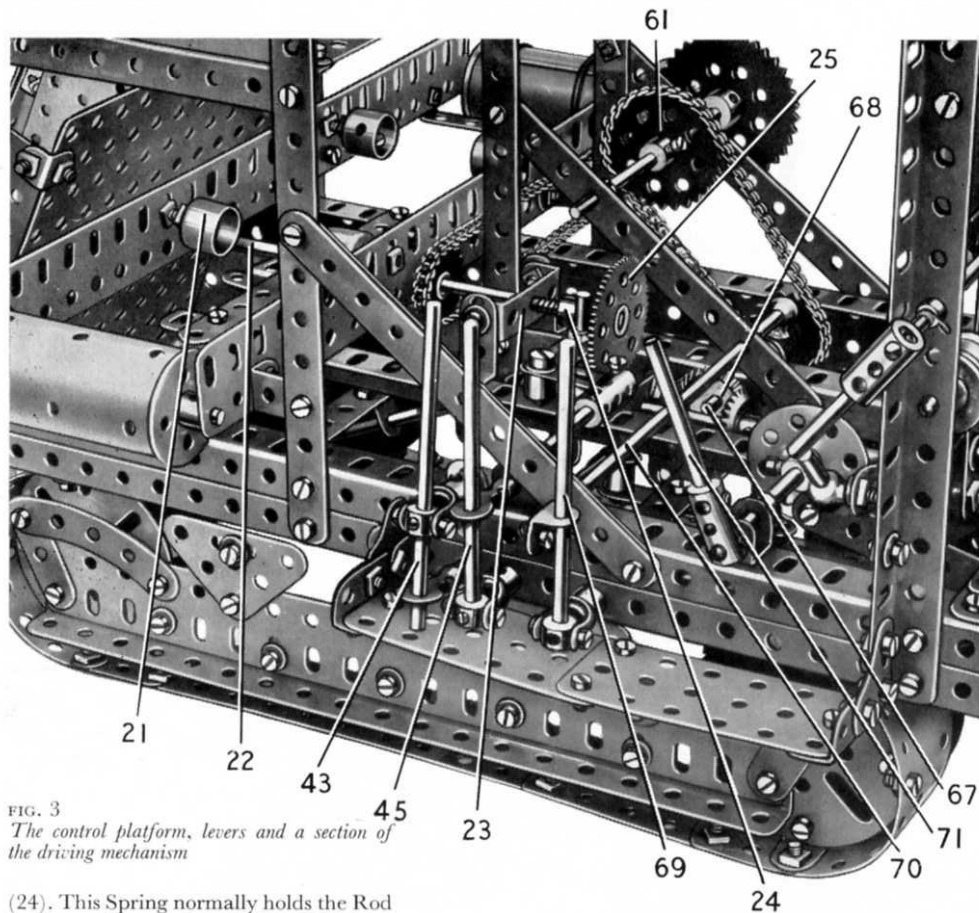
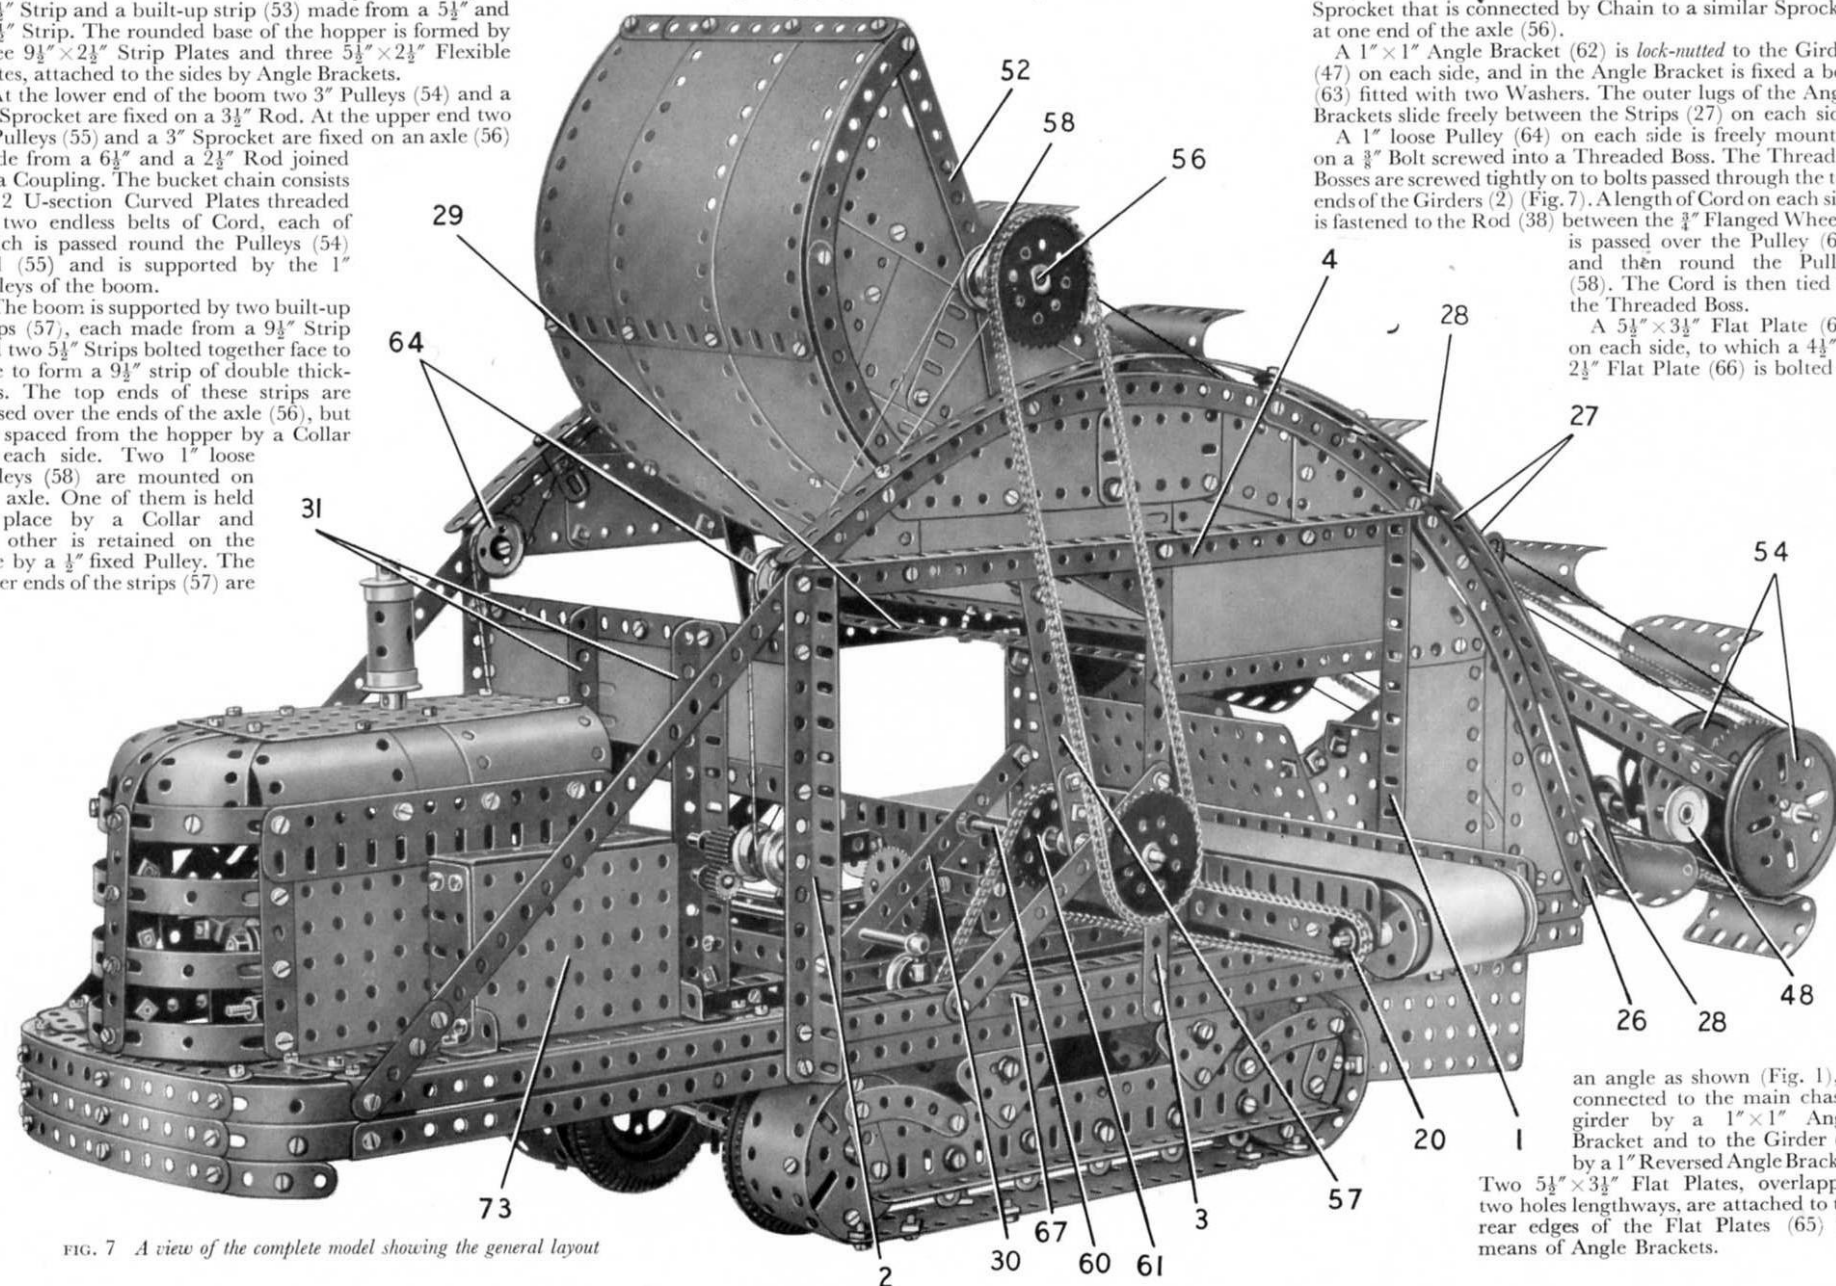

FIG. 3
FIG. 7 A view of the complete model showing the general layout
Each side-member of the chassis consists of two $2\frac{1}{2}$ " Angle Girders arranged to form a channel section girder by bolting to them two $7\frac{1}{2}$ " Angle Girders (1) and (2) and a $7\frac{1}{2}$ " Strip (3) (Fig. 7). The top ends of the Girders (1) and (2) and the Strip (3) are connected by bolting to them a $12\frac{1}{2}$ " Angle Girder (4). The side-members are connected by two built-up strips (5) and (6) (Fig. 2), each made from two $5\frac{1}{2}$ " Strips overlapped seven holes. Two similar built-up strips (7) and (8) are fixed in position, and a further built-up strip (9) (Fig. 3) is bolted across the chassis. The strip (9) is made from two $4\frac{1}{2}$ " Strips overlapped three holes. Two $18\frac{1}{2}$ " Angle Girders (10) are bolted to the strips (5) and (6) as shown.
The Motor switch is operated by a lever (71) (Figs. 3 and 6) formed by a 2" Rod in a Coupling. The Coupling is fixed on a $3\frac{1}{2}$ " Rod mounted in Double Brackets bolted to the chassis, and the Rod carries a Bush Wheel to which a built-up strip is *lock-nutted*. This strip consists of two $5\frac{1}{2}$ " Strips placed face to face and extended by a $3\frac{1}{2}$ " Strip that overlaps the $5\frac{1}{2}$ " Strips by three holes, and it is *lock-nutted* also to a Bush Wheel on a $2\frac{1}{2}$ " Rod. The Rod is held by Collars in Flat Trunnions bolted to the Girders (10), and a $2\frac{1}{2}$ " Strip (72) (Fig. 2) is fixed across the Bush Wheel. Another $2\frac{1}{2}$ " Strip is *lock-nutted* to the Strip (72) and is pivoted at its upper end on a $\frac{3}{8}$ " Bolt screwed into a Handrail Support that is *lock-nutted* to an arm of the Motor switch.
The conveyor frame consists of two $12\frac{1}{2}$ " Flat Girders, one of which is attached to the Girders (1) (Fig. 7) by $1" \times \frac{1}{2}"$ Angle Brackets while the other is similarly attached to the Strips (3). A $3\frac{1}{2}" \times \frac{1}{2}"$ Double Angle Strip (19) (Fig. 2) is bolted between the Flat Girders at one end.
The main conveyor rollers are formed by $1\frac{1}{8}"$ Flanged Wheels pressed into Cylinders, and each is fixed on a 4" Rod mounted in the Flat Girders. The Rod that supports the driving roller carries a $\frac{3}{4}"$ Sprocket (20) (Fig. 7), and two $2\frac{1}{2}"$ Driving Bands are stretched round this roller. The belt can be made from a length of cloth or strong paper joined together at its ends. The supporting rollers (21) (Fig. 3) are Chimney Adaptors, each of which is free to turn on a $\frac{1}{2}"$ Bolt and is held against the head of the Bolt by two nuts screwed against each other.
The Sprocket (20) is driven by a 1" Sprocket on a $6\frac{1}{2}"$ Rod (22) (Fig. 3). This Rod is supported in the conveyor frame and in a $1\frac{1}{2}" \times \frac{1}{2}"$ Double Angle Strip (23) that is attached to $1" \times \frac{1}{2}"$ Angle Brackets bolted to the Girders (10). A Compression Spring is fitted on the Rod between Double Angle Strip (23) and a Collar
(24). This Spring normally holds the Rod so that a 57-tooth Gear (25) on it is kept clear of the Pinion (15) (Fig. 8). The Gear and Pinion can, however, be brought into mesh by sliding the Rod, to engage the drive to the conveyor. The movement of Rod (22) is restricted by a Collar placed inside the conveyor frame, and is controlled by a lever (45) (Fig. 3). This lever is a $3\frac{1}{2}$ " Rod fixed in a Swivel Bearing attached to the chassis by a Pivot Bolt. The lever carries as shown a Rod and Strip Connector fixed on a $3\frac{1}{2}$ " Rod that slides in a Double Bracket bolted to the chassis. A Strip Coupling on the $3\frac{1}{2}$ " Rod is connected by a $\frac{3}{8}$ " Bolt to one arm of a Bell Crank, and this is mounted freely on a Pivot Bolt fixed in one of the Girders (10). The other arm of the Bell Crank carries a Threaded Pin that engages between the Collar (24) and the Gear (25).
A 1" loose Pulley (64) on each side is freely mounted on a $\frac{3}{4}$ " Bolt screwed into a Threaded Boss. The Threaded Bosses are screwed tightly on to bolts passed through the top ends of the Girders (2) (Fig. 7). A length of Cord on each side is fastened to the Rod (38) between the $\frac{3}{4}$ " Flanged Wheels, is passed over the Pulley (64) and then round the Pulley (58). The Cord is then tied to the Threaded Boss.
Drive to the Bucket Chain (Figs. 3, 5, 7 and 8)
A 4" Rod (67) (Fig. 3) is mounted in one of the Girders (10) and in one side of the chassis frame. The Rod carries a $\frac{3}{4}$ " Bevel Gear (68), a 1" Sprocket connected by Chain to the $1\frac{1}{2}$ " Sprocket (61), and a $\frac{3}{4}$ " Flanged Wheel. A Compression Spring is fitted on Rod (67) between the Girder (10) and the Flanged Wheel, and this normally holds the Rod in such a position that Bevel Gear (68) is clear of Bevel Gear (17). The two Bevel Gears can be meshed by moving a lever (69). The lever is a $3\frac{1}{2}$ " Rod held in a Swivel Bearing fixed on a Pivot Bolt bolted to the side of the chassis. An Angle Bracket passed over the lever is lock-nutted to a Rod and Strip Connector on a $6\frac{1}{2}$ " Rod (70) and a Handrail Coupling engages the $\frac{3}{4}$ " Flanged Wheel on Rod (67).
The side of the engine cover seen in Fig. 7 consists of a $5\frac{1}{2}" \times 2\frac{1}{2}"$ Flat Plate and a $5\frac{1}{2}"$ Flat Girder bolted at one end to a $3\frac{1}{2}"$ Strip and at the other end to a $3\frac{1}{2}"$ Flat Girder. The other side is formed by a $5\frac{1}{2}"$ Strip, a $5\frac{1}{2}"$ Flat Girder, a $3\frac{1}{2}"$ Flat Girder, a $3\frac{1}{2}"$ Strip and a $5\frac{1}{2}"$ Braced Girder attached to the $5\frac{1}{2}"$ Strip by two Hinges. A $5\frac{1}{2}"$ Angle Girder extended by a $2\frac{1}{2}"$ Angle Girder is bolted to the lower edge of each side of the engine cover, and these Girders are used to attach the structure to the chassis frame. At one side of the engine cover a box structure (73) is fitted (Fig. 7).